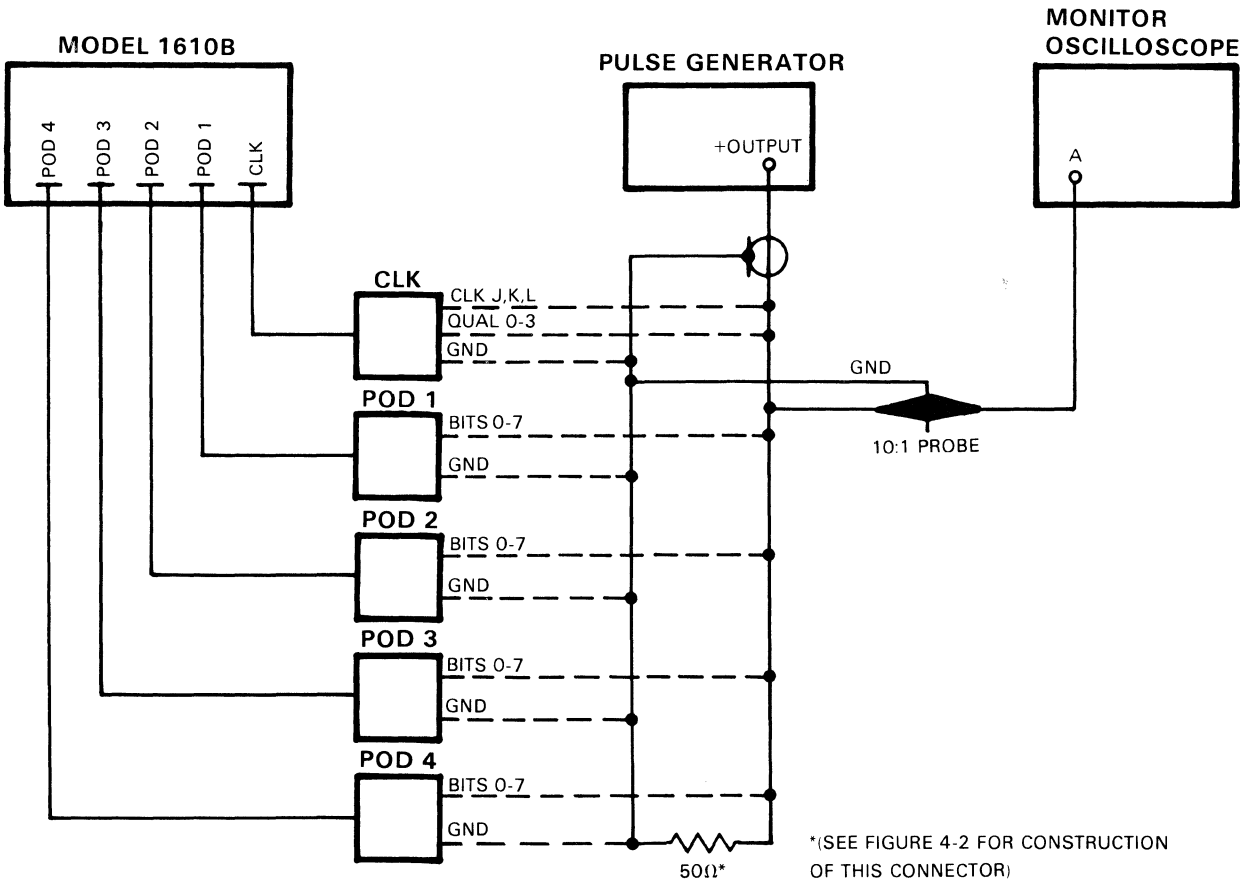

Figure 4-3. Input Threshold and Minimum Input Swing Test Setup
- c. Connect Clock L input to pulse generator as shown in figure 4-3.
- k. Connect bit 0 of Pod 1 to pulse generator as shown in figure 4-3.
- o. Connect Pod 1 bit 0 and qualifier bit 0 to pulse generator as shown in figure 4-3.